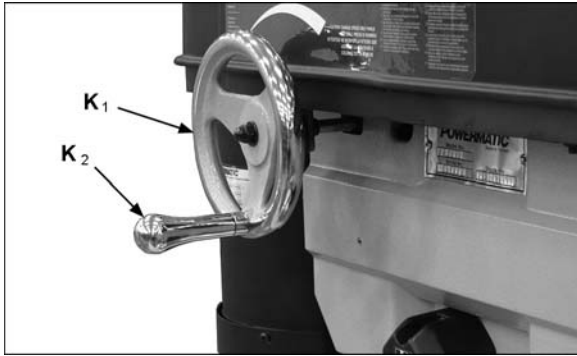

Figure 9
14. Install handwheel (K₁, Figure 9) on speed change shaft by aligning slot in handwheel with spring pin on shaft. Tighten with washer and crown nut.
15. Install handle (K₂, Figure 9) into threaded hole in handwheel. Tighten by using a wrench on the flat.
With the drill press running, rotate handwheel (shown in Figure 9) until desired speed is displayed on LED readout at front of head. Speed range is 250 to 3000 RPM.